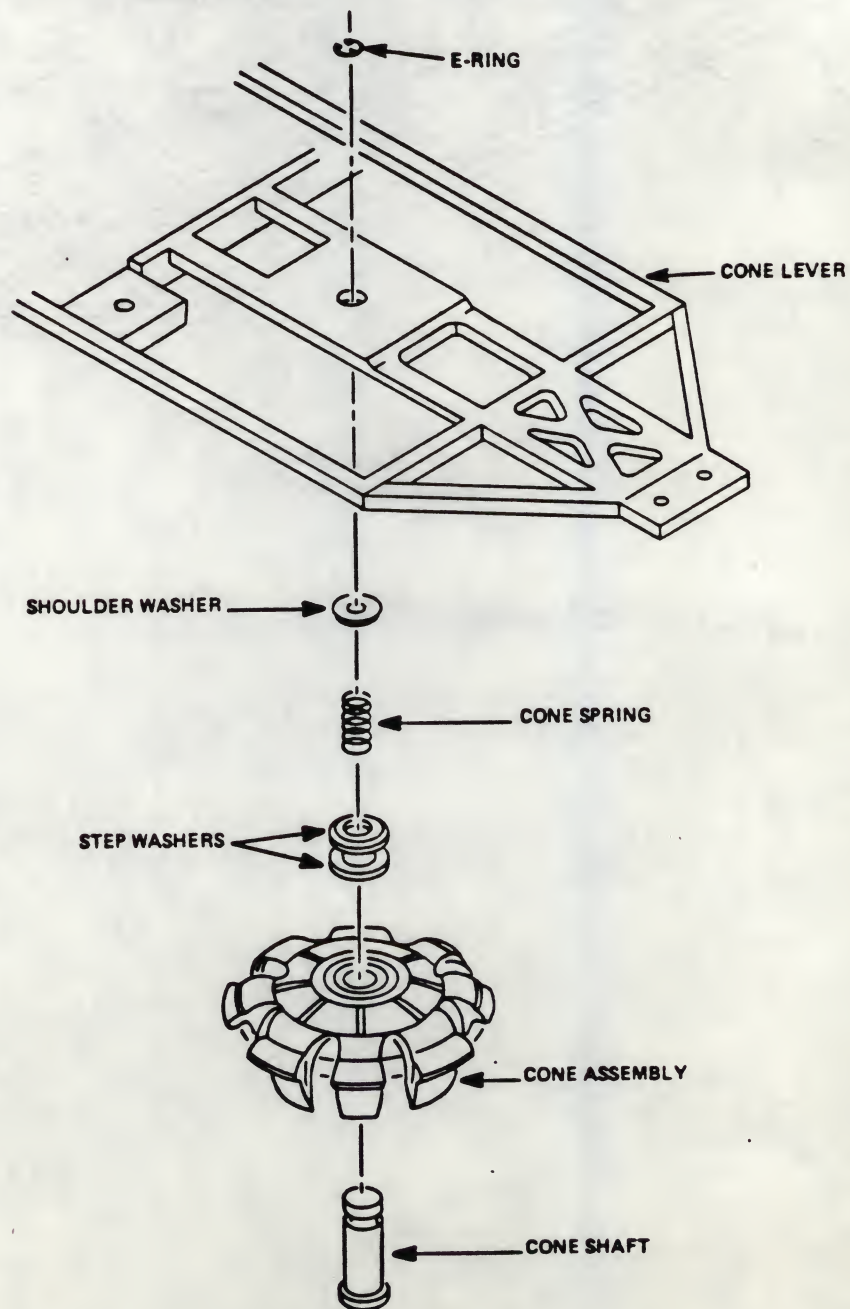

Figure 5-8
5.5.2 Remove the Cone Lever Assembly (see Section 5.4) (see Figure 5-8).
- 5.5.7** Install the E-ring in order to retain the Cone Lever Assembly (see Figure 5-8).